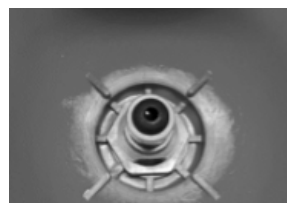

Fig.1
- Check that seals (between the appliance and the gas cartridge or gas cylinder) are in place and in good condition before connecting the gas cartridge or gas cylinder (Fig.1). If the seal is worn, replace it with another one which complies with the manufacturer's requirement and national requirements.